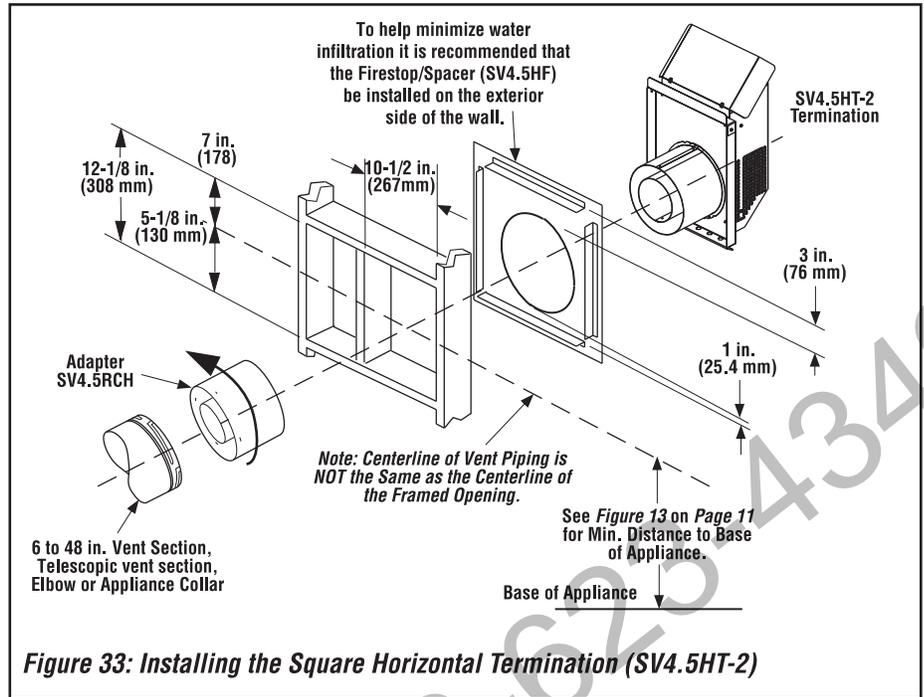

Figure 33: Installing the Square Horizontal Termination (SV4.5HT-2)
K. Attach termination adaptor—Attach the adaptor (SV4.5RCH, provided with the termination) to the vent section or telescoping vent section, elbow or appliance collar as shown in **Figure 33** in the same manner as any SV4.5 vent component (refer to **Step E**).
L. Install Firestop/Spacer at exterior wall—When using the **square** termination, install SV4.5HF (Secure Vent®), SF4.5HF (Secure Flex®) Firestop/Spacer over the opening at the exterior side of the framing, long side up, with the 3 inch spacer clearance at the top as shown in **Figure 33**, and nail into place (the Firestop/Spacer may also be installed over the opening at the interior side of the framing).